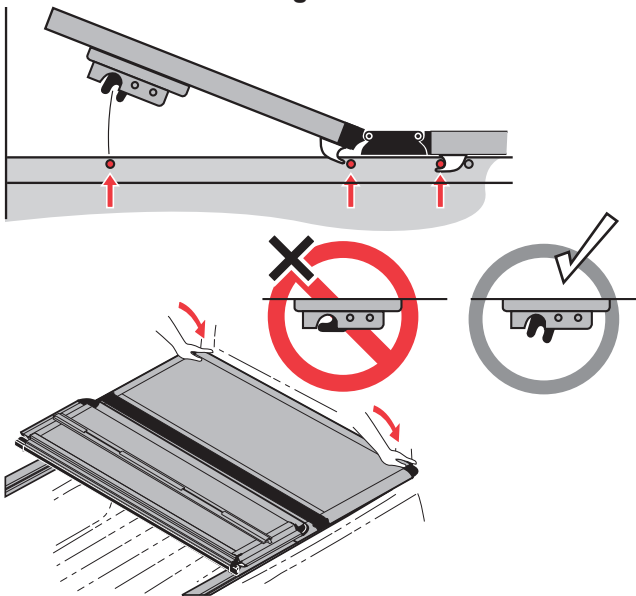

Figure 20
- (e) Press down on cab panel to lock it in place. Lift up on the panel to make sure the panel latched properly. (Fig. 20)